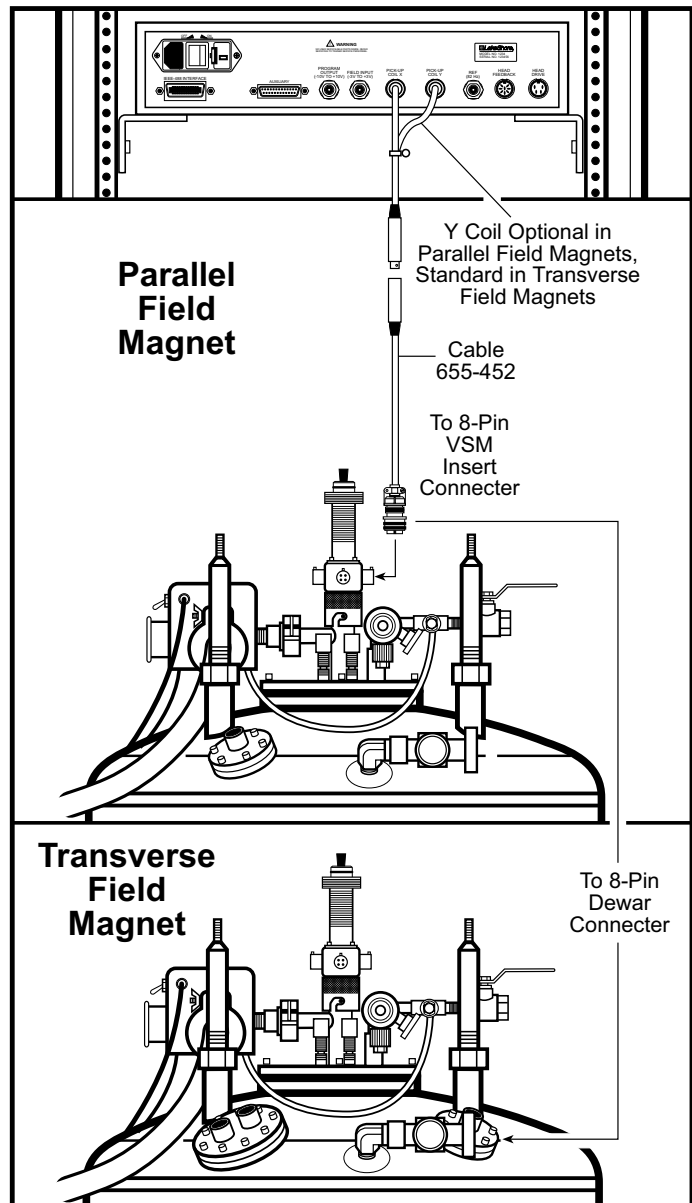

Figure 3-14 Connecting the Model 735 to the VSM Insert
23. Plug Cable 653-142 into the Model 735 Pick-Up Coil X port and Cable 653-143 (optional) into the Model 735 Pick-Up Coil Y port. Connect the other end of this cable(s) to Cable 655-452. Connect the other end of Cable 655-452 to the 8-pin connector on the VSM Insert (Figure 3-14).
Connect other end of Cable 655-452 to the 8-pin connector on the Dewar (Figure 3-14).